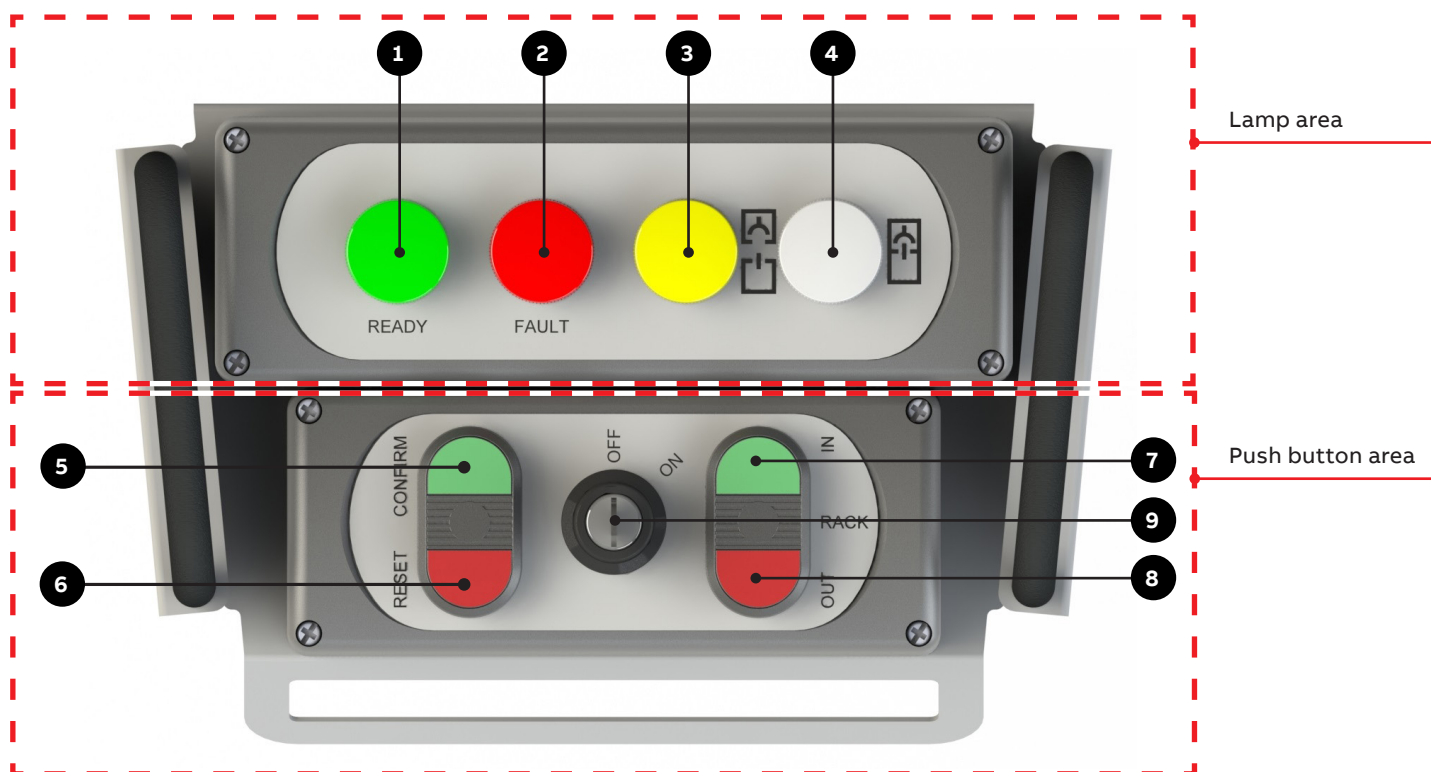

Fig. 5
Rack in operation starts by pressing at the same time the confirm and rack in push buttons fig. 5 items 5-7, the jackscrew will stop in the completely extended position.
Rack out operation starts by pressing at the same time the confirm and rack out push buttons fig. 5 items 5-8, the jackscrew will stop in the completely retracted position.